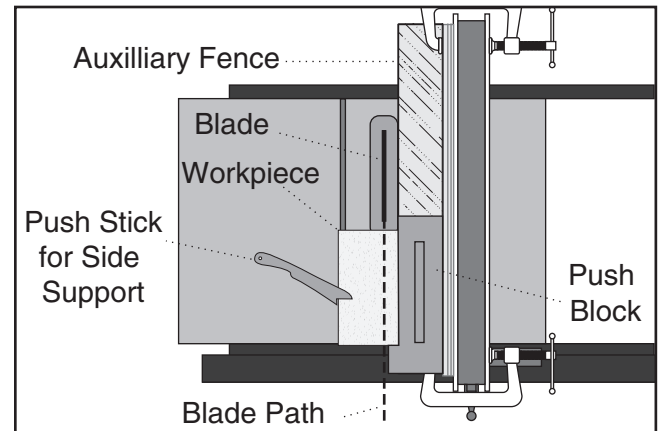

Figure 83. Push block in position to push workpiece through blade.
3. Place the workpiece 1" behind the blade and evenly against the table and the auxiliary fence (see **Figure 83**).